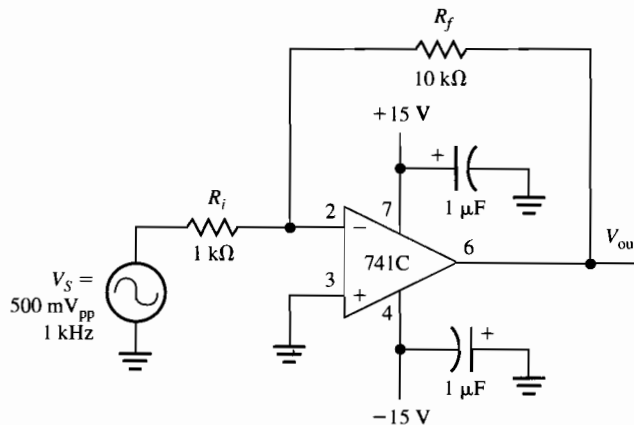

Figure 45-3
2. In this step you will test an inverting amplifier. Record all data in Table 45-2. The circuit is illustrated in Figure 45-3. The closed-loop gain is